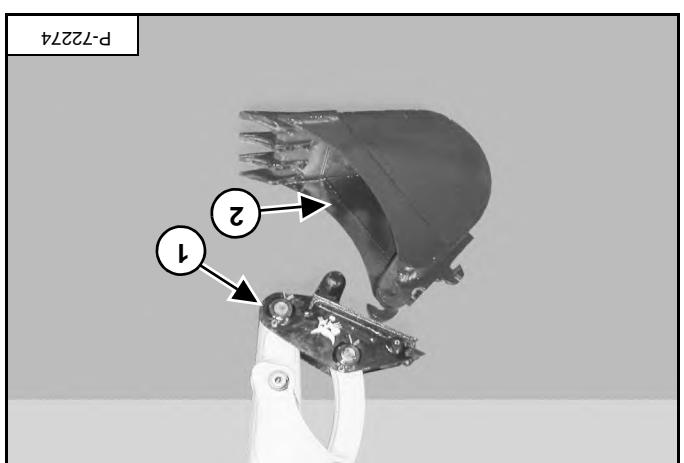
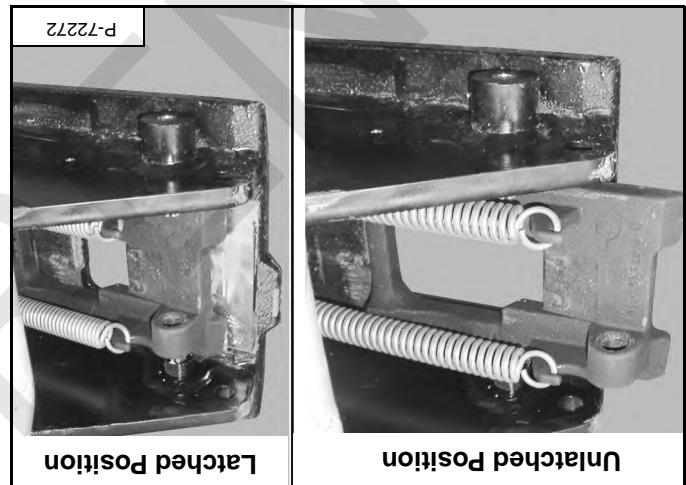
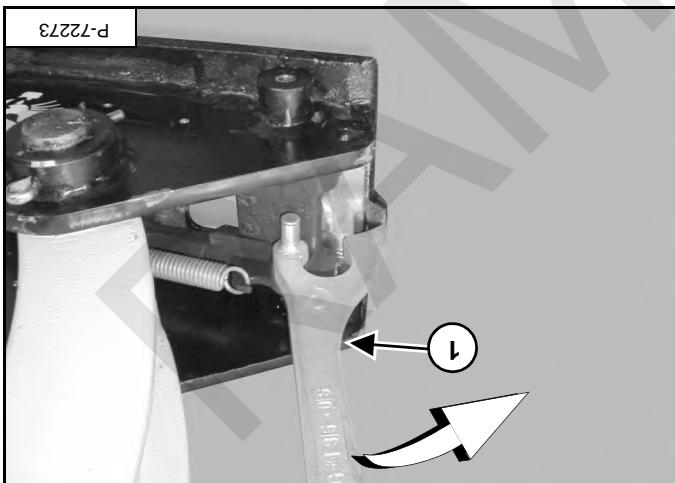

Figure 99
Figure 97
Figure 98
Position the quick coupler (item 1) to the attachment (item 2) [Figure 99]. Extend the arm out to get the required angle for proper installation.
Position the quick coupler (item 1) to the attachment (item 2) [Figure 99].
[Figure 99]. If the latch is in the unlatched position, proceed to [Figure 98] for additional information. If in the latched position, see [Figure 98] for additional unlatched position [Figure 97]. Inspect the quick coupler to make sure the latch is in the unlatched position. Stop the engine and exit the excavator. (See Entering And Exiting The Excavator on Page 54.) Fully retract the bucket cylinder.